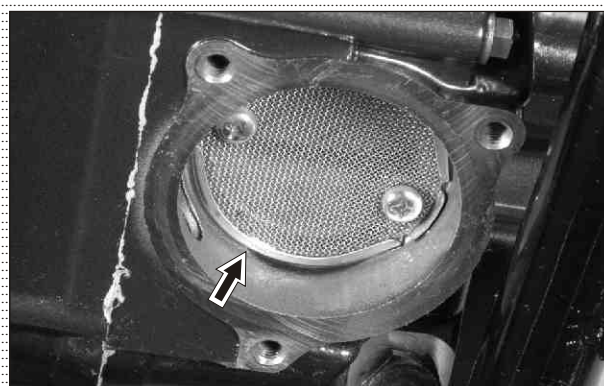

Fig. 4.40
- Oil strainer is provided at the bottom of crankcase R. (Fig. 4.40)